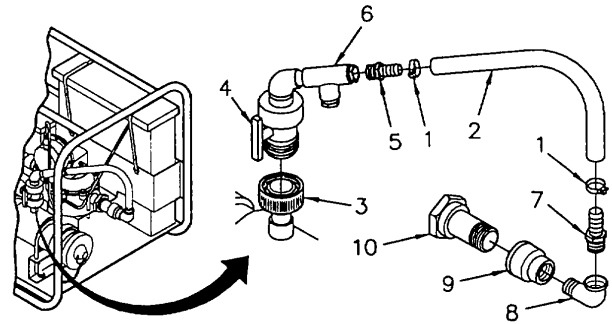

Figure 4-4. Outlet Pipe Assembly
- (1) Remove two hose clamps (1, Figure 4-4) and hose (2).
- (2) Unscrew ball valve collar (3) and remove ball valve body (4) and tee (6).
- (3) Remove straight adapter (5) from tee (6).
- (4) Remove straight adapter (7) from pipe elbow (8).
- (5) Remove pipe elbow (8) from reducer coupling (9).
- (6) Remove reducer coupling (9) from outlet pipe (10).
(1) Install reducing coupling (9, Figure 4-4) onto outlet pipe (10) of ratio-feeder assembly.
(2) Install pipe elbow (8) into reducer coupling (9).
(3) Install straight adapter (7) into pipe elbow (8).